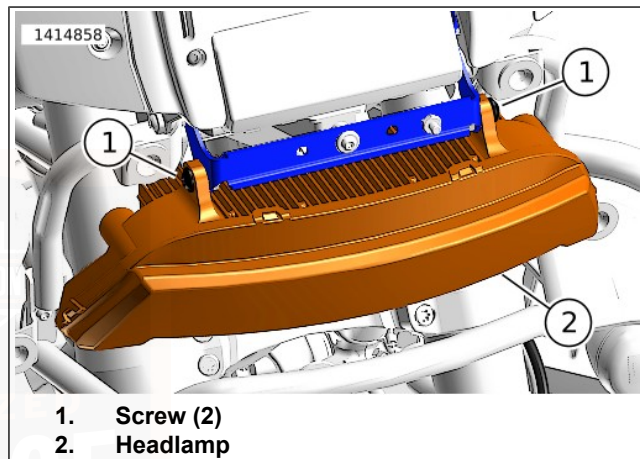

Figure 80. Headlamp Adjustment
2. Figure 80 Loosen screws (1).